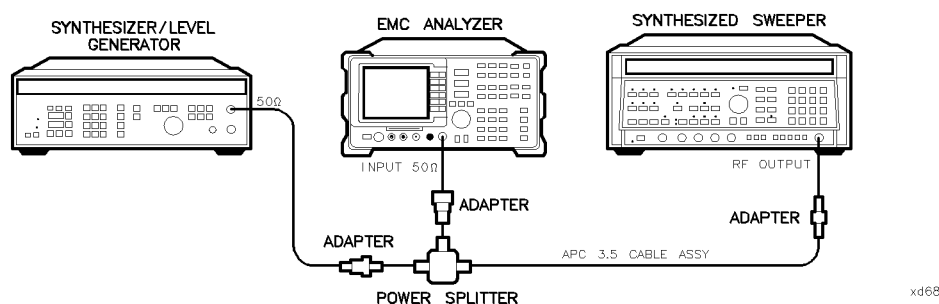

Figure 2-12.
1. Connect the equipment as shown in Figure 2-12. Note that the Power Splitter is used as a combiner.